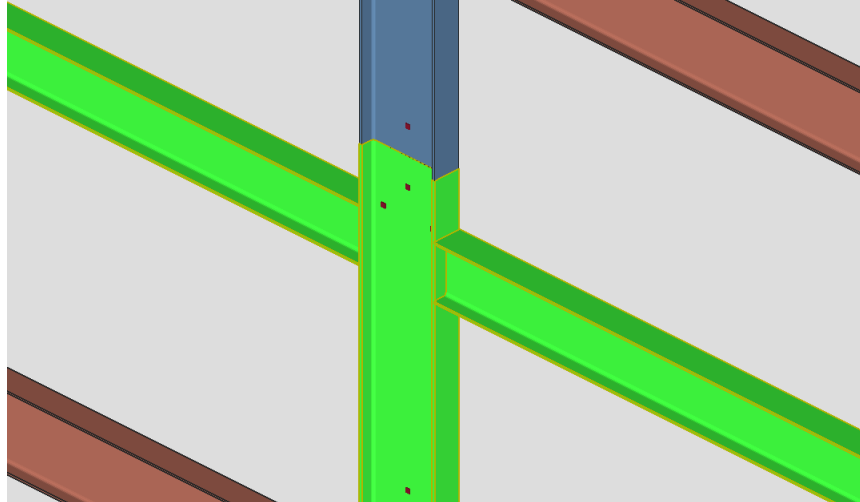

Figure 13. Select Members
4. If there is a second beam, select it while still holding the shift key. Column and beam(s) should all be selected, see Figure 13.